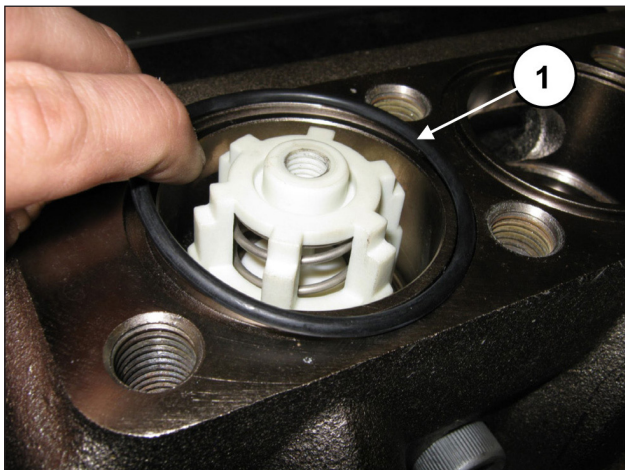

Fig. 164
Insert the front O-ring in the outlet valves (pos. ①, Fig. 164).